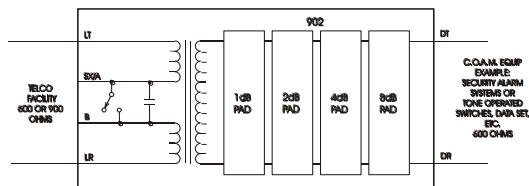
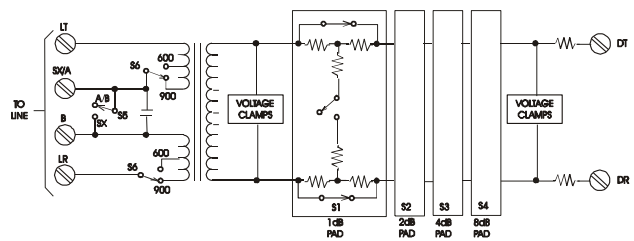

Figure 1.
Figure 2.
2.01 The 902 is used to couple VF signals from the Telco Facility to the Customer Premises Equipment (CPE), such as shown in Figure 1 and in the Block Diagram, Figure 2. The simplex or A and B leads can be used for sealing current and control functions, such as controlling a relay, a lamp or any other warning device controlled by DC signals.